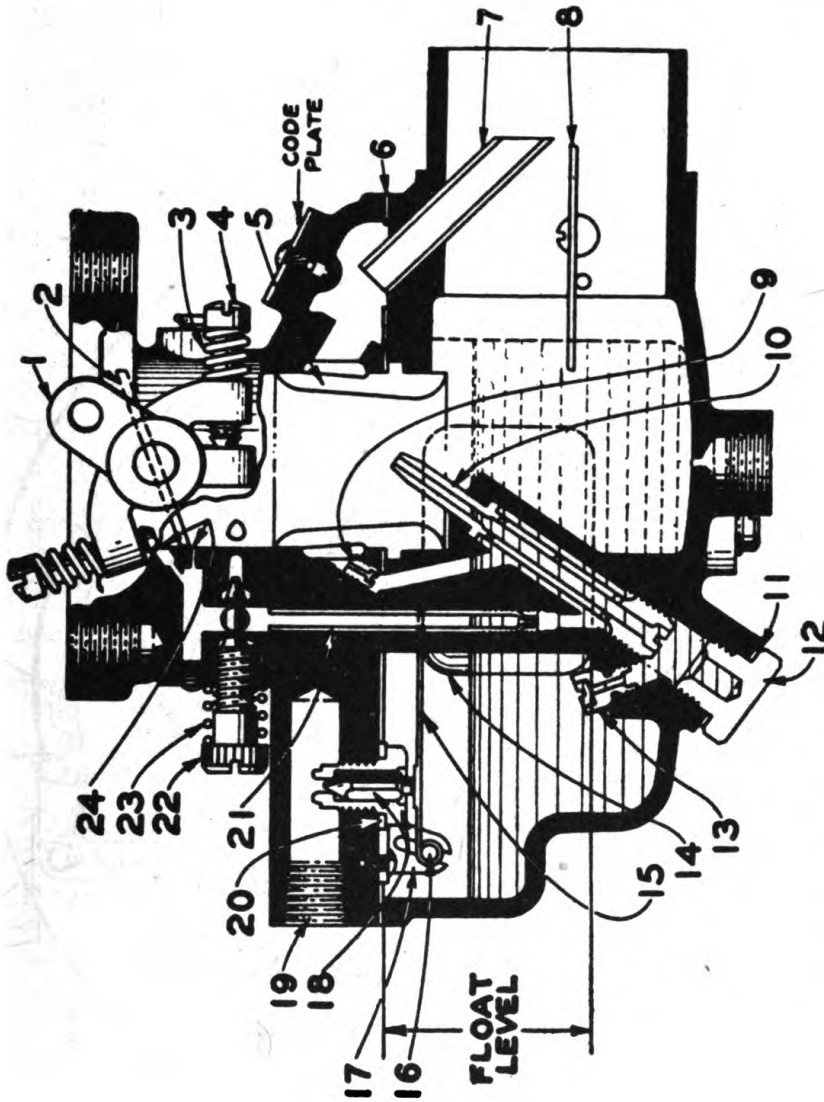

FIGURE 12.—Carburetor.
- (1) The amount of end clearance is governed by shims 226 and 227.
- (2) By driving the crankshaft from one side to another, the end play can be easily felt.
20. **Carburetor. (Figure 12)**